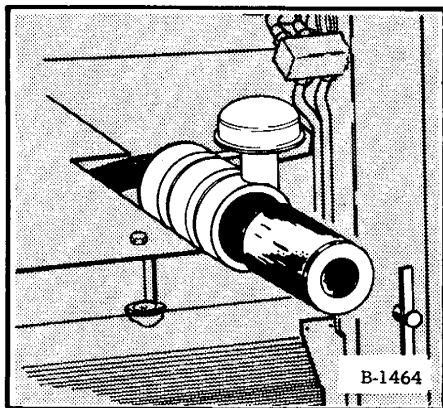

Fig. 31 Standard Air Cleaner
2. Insert new element and reassemble (Figure 31 & 32)